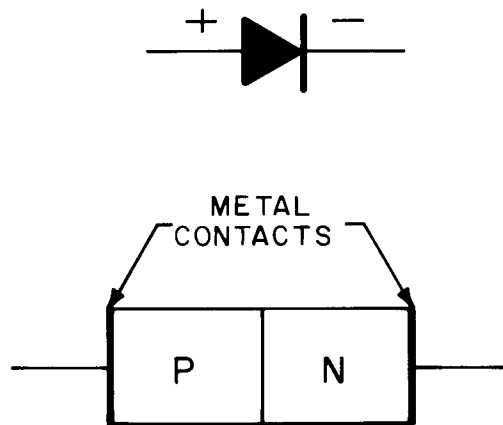
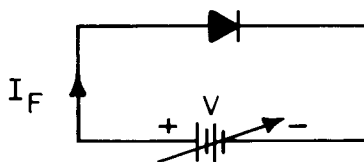

Figure 8-1. Diode Symbol
Figure 8-2. P-N Junction Biased in the Forward direction
A semiconductor diode is formed by the creation of a junction between P-material and N-material within a crystal during the manufacturing process. The standard semiconductor diode has in its symbol, an arrow to indicate the direction of forward current flow, as shown in Figure 8-1. With positive voltage applied to the P-material and negative voltage applied to the N-material, the diode is said to be forward biased, as shown in Figure 8-2. The current (I_f) increases rapidly with small increases in applied voltage (V).